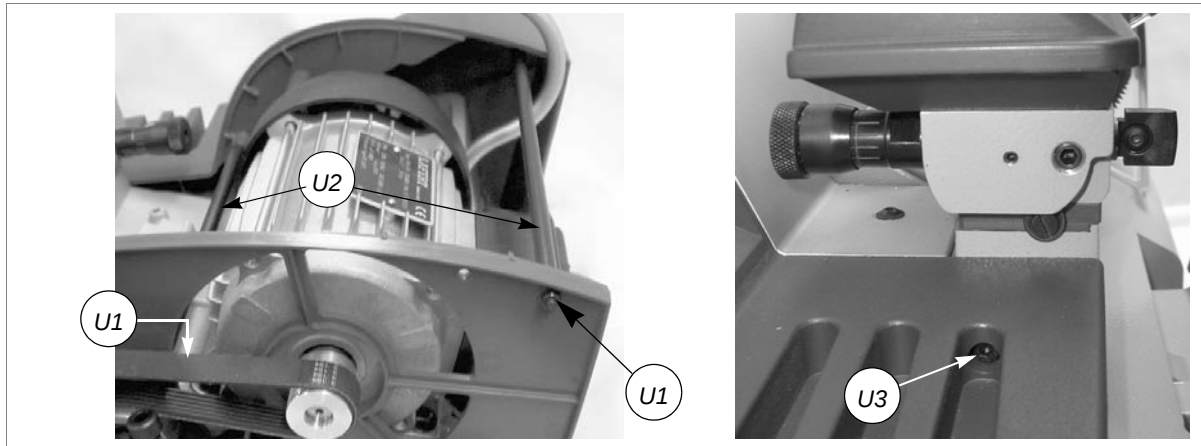

Fig. 42
- 6) Loosen the nuts (U1) on the stay bolts (U2) and remove together with their washers (fig. 42, page 30).
- 7) Loosen the stay bolts (U2) (fig.42) and remove.
- 8) Loosen the screw (U3) on the left-hand cover (fig.42).